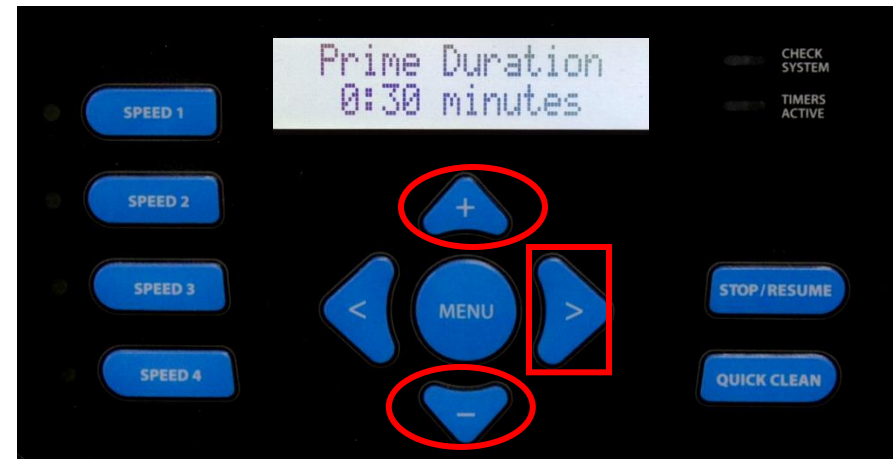

Figure 35
11. You will now see the Prime Duration period. Press  &  buttons to change the duration in 30 second intervals. The default duration is 8 minutes, and can be set between 15 minutes and zero minutes (fig 35). Press the  button to continue.